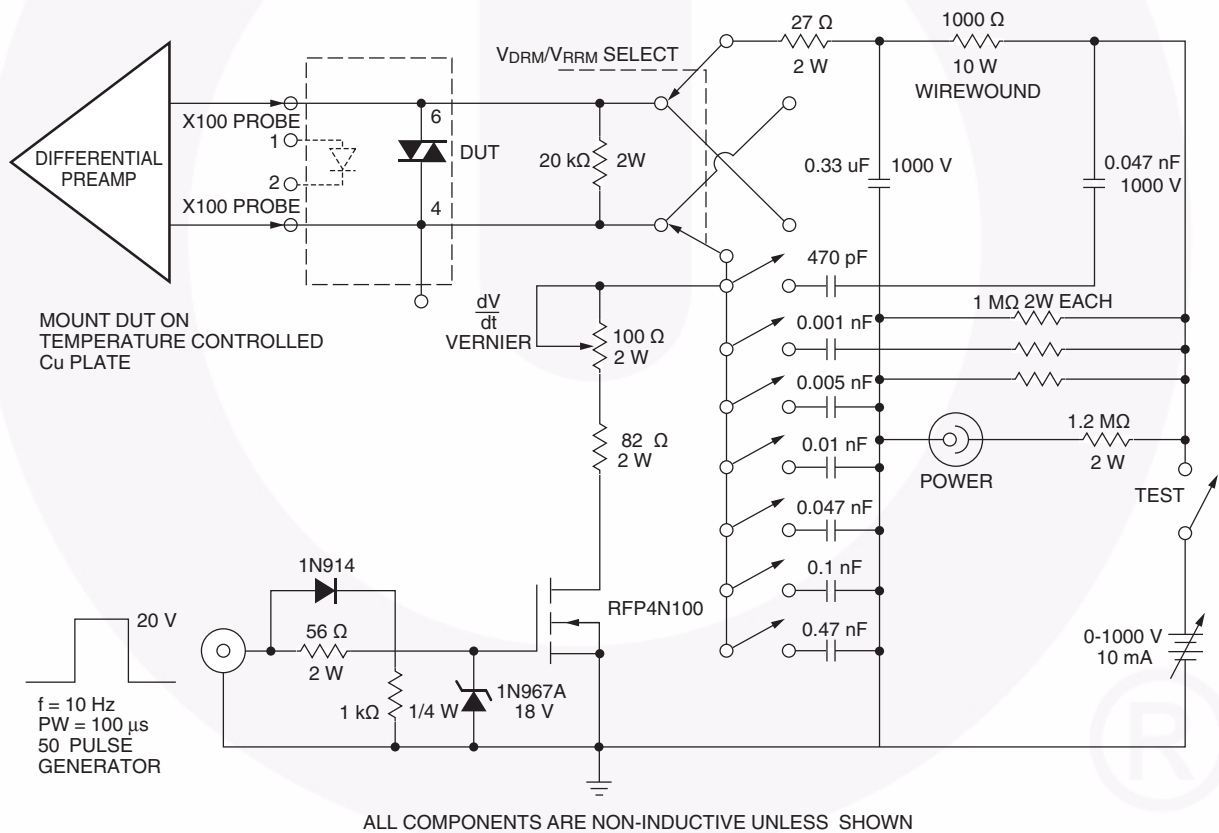

Figure 13. Circuit for Static $\frac{dv}{dt}$ Measurement of Power Thyristors
3. This is static dv/dt. See Figure 13 for test circuit. Commutating dv/dt is a function of the load-driving thyristor(s) only.